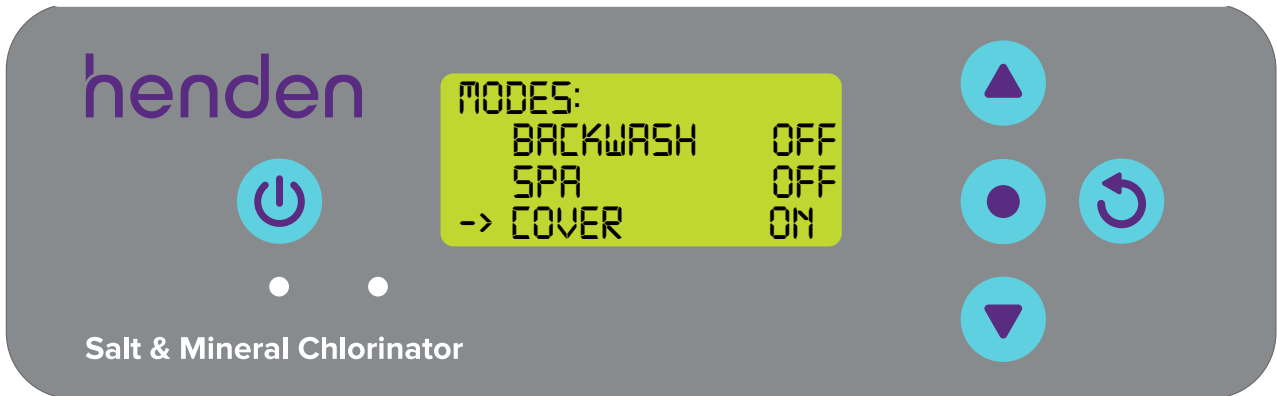

Figure 9.76
- Press the  **menu/setting cancel (go back)** button twice to revert back to the **HOME SCREEN** (refer Figure 9.76).